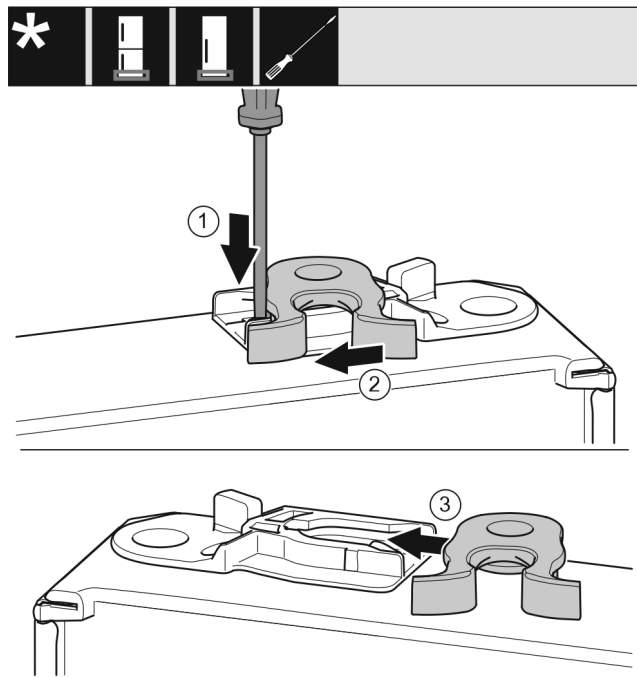

Fig. 39 \*
- ▶ Use a slotted screwdriver to push the tab Fig. 39 (1) downwards.\*
- ▶ Pull the closing hook Fig. 39 (2) out of the guide.\*
- ▶ Insert the closing hook Fig. 39 (3) into the guide on the other side.\*